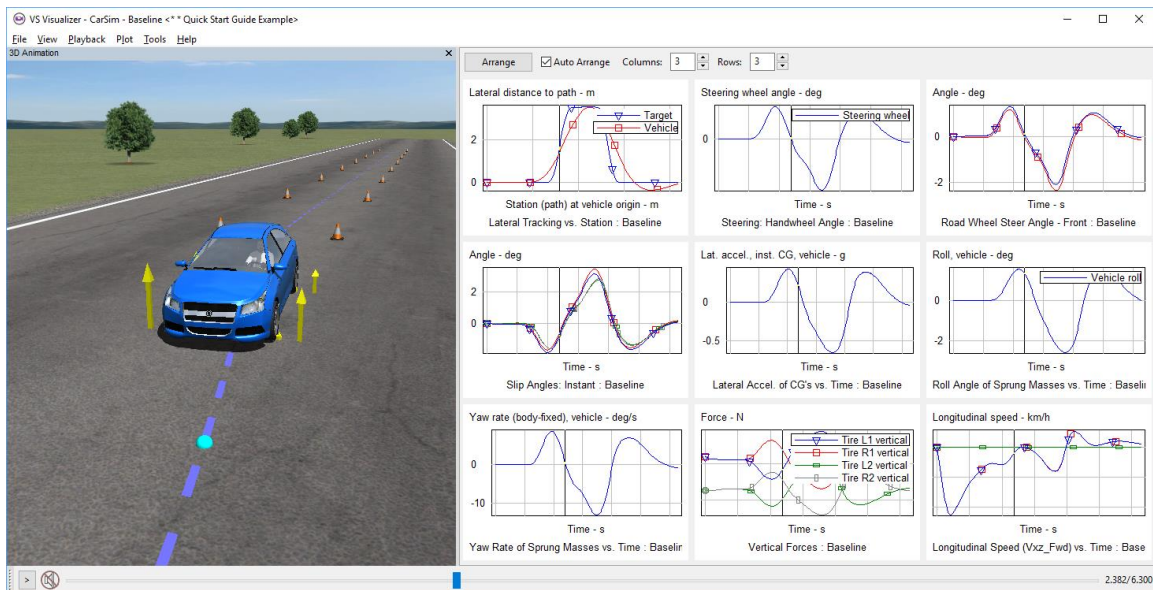

Figure 8. Analyze results after clicking the Video + Plot button.
- 9 **Video + Plot** button. Click to view plots and video associated with the run (Figure 8). This button sends all of the information to VS Visualizer associated with the **Video** button (8) plus all of the information associated with the **Plot** button (14).
This information is provided to VS Visualizer which will show a view similar to that shown in Figure 8 (page 7), but without the video. When used in this manner, VS Visualizer does not load 3D animator asset files, reducing the time between clicking the button and showing the plots.